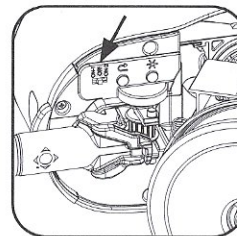

Figure 2
2. Place the switch to the 'OFF' position. (Fig. 2)